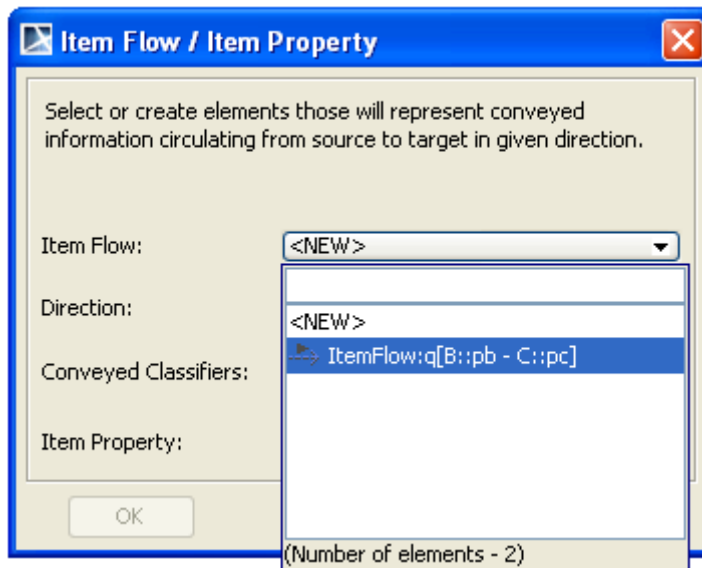

Figure 109 -- Item Flow / Item Property Dialog - Item Flow Selection
3. The existing item flows on the selected connector can be selected for setting the item property using the Item Flow drop-down menu. The item flows, whose realizing connector property contains the selected connector, will be listed in this drop-down menu (Figure 109).